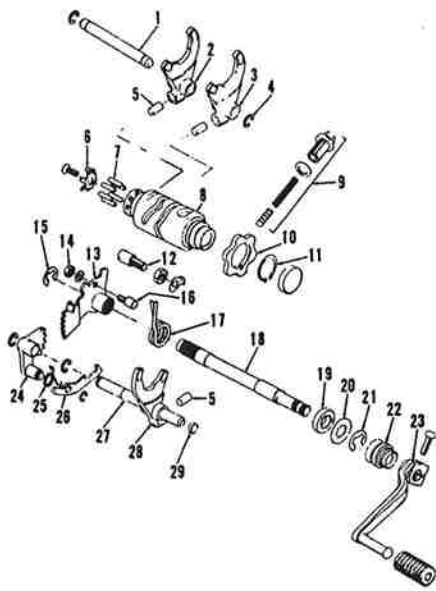
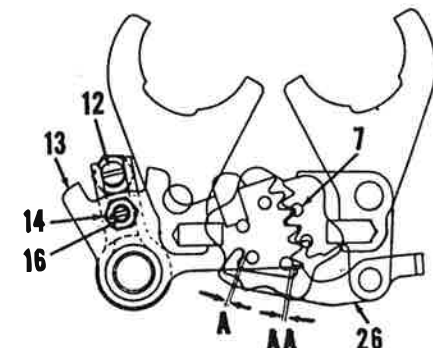

Fig. Y19-22—View of shifter components used on later models.
Fig. Y19-25—View of shift mechanism adjustment points for unit shown in Fig. Y19-22. Refer to Fig. Y19-22 for legend.
Gear change mechanism (Fig. Y19-22) used on later models is adjusted by turning eccentric pin (16—Fig. Y19-25). Shift transmission into second or fourth gear and observe clearances (A & AA) between change arm (26) and shift drum pins (7). Loosen lock nut and turn eccentric pin (16) until clearances (A & AA) are equal.